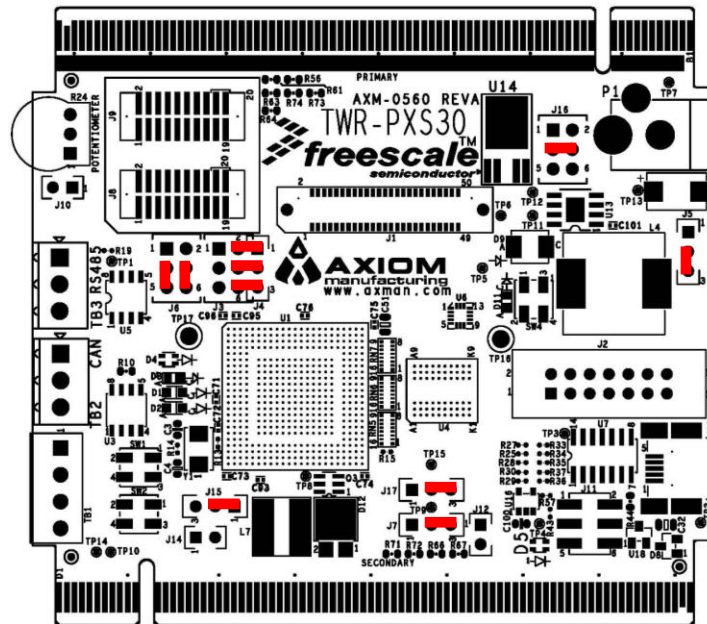

Figure 1: TWR-PXS30 Default Option Settings
The TWR-PXS30 features the PXS30 microprocessor (MCU). The PXS30 is a 32 bit embedded controller designed to support advanced driver assistance by integrating RADAR, CMOS imaging, LIDAR and ultrasonic sensors. The PXS30 also applies 3-phase motor controllers for use in hybrid electric vehicle (HEV) and industrial applications. This guide will show how to quickly connect the board to a host PC, and execute a demonstration application preloaded into FLASH memory. Default jumper positions for the TWR-PXS30 are shown in Figure 1 below.
1. Verify the option jumpers are set in default positions. Refer to Figure 1 above.
- Ensure the option jumpers are set to default positions. Refer to Figure 1 above. Specifically, ensure the PWR_SEL option jumper is set correctly.